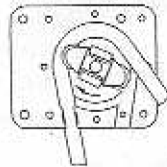

FIG. 4
8. Continue to rotate the roller bracket assembly using the extra bracket, while pushing the tubing into the roller race. (Figure 4)